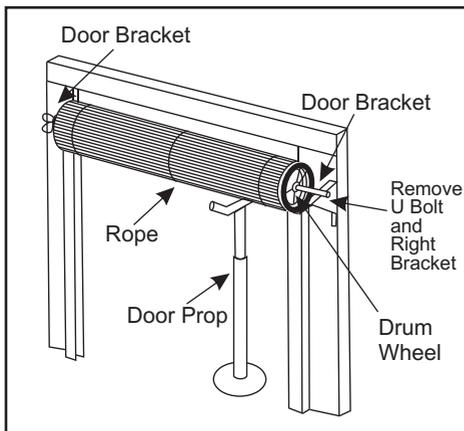

Fig. 5
4. Move the door up and use one piece of rope to bind the door tightly in the middle . (ref fig 5)
5. Use backstop to uphold the door at the motors end. Please note that on the top of the backstop there must be some soft support to protect the surface of the door (ref to fig.5).